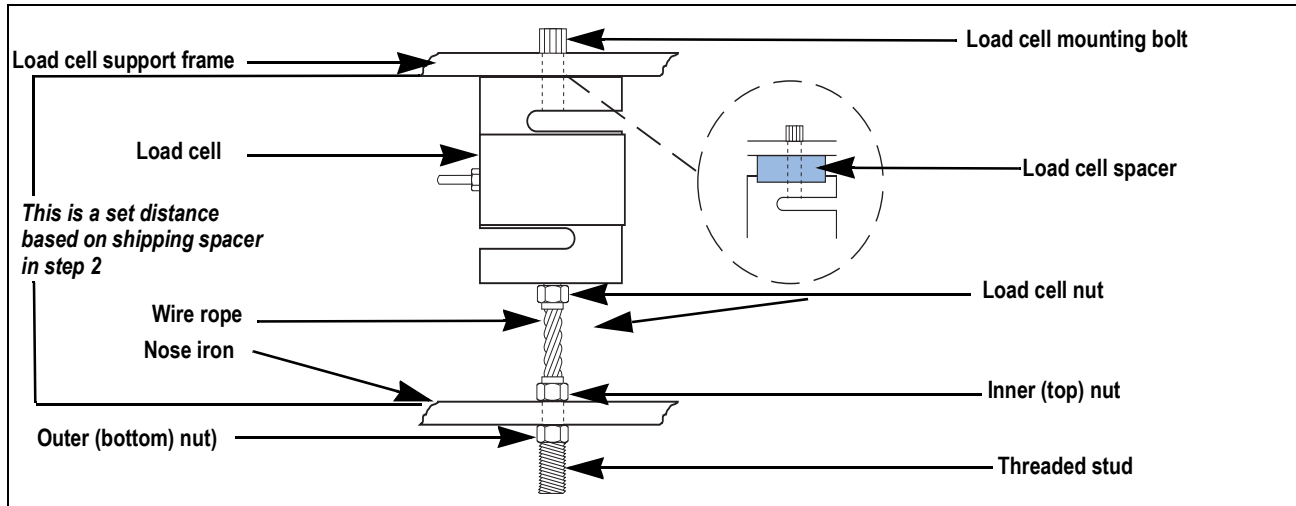
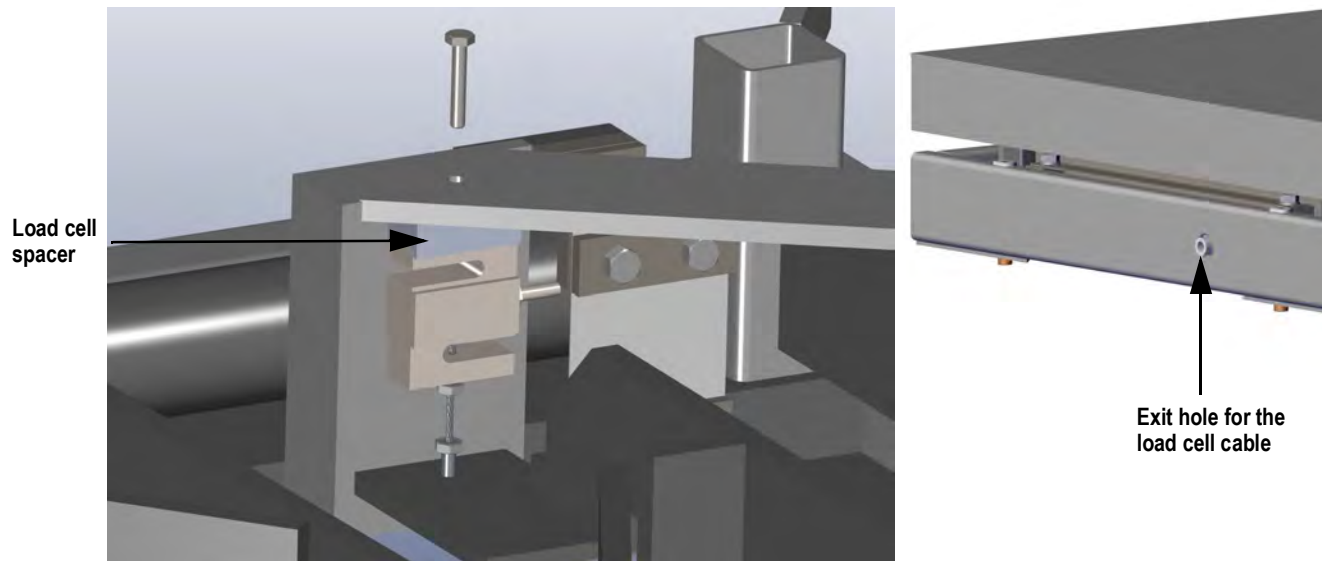

Figure 2-4. Load Cell Setup
Figure 2-5. FXB Interior
2. Insert a block under the primary lever so it fits snugly. Remove the shipping bolt and shipping spacer (not shown). The shipping spacer is placed between the load cell support frame and the nose iron (in place of the load cell) during shipping (see Figure 2-4 and Figure 2-5 on page 7) and is the set distance that must be duplicated when inserting the load cell.
5. Remove the load cell mounting bolt from the top of the cell (Figure 2-4).
8. Position the load cell so the load cell cable will travel directly out of the exit hole in the base as shown in Figure 2-5 on page 7.
12. The inner nut should be turned down from being flush with the top of the stud (refer to step 4 on page 6), until it makes contact with the nose iron. That should be the same distance as the shipping spacer measurement which is referred to in Figure 2-4 on page 6.
9. Pass the signal cable through the access hole and follow directions from Figure 2-5 on page 7